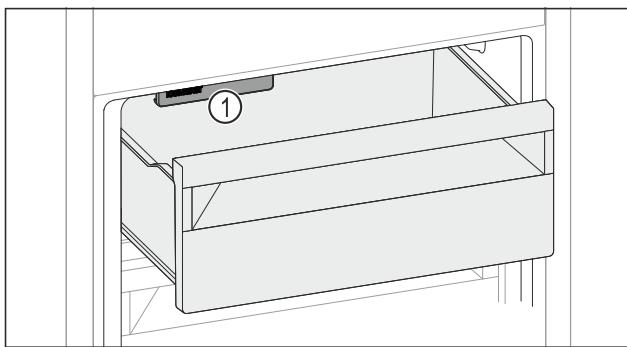

Fig. 151
- Pay attention to the IceMaker Fig. 151 (1).